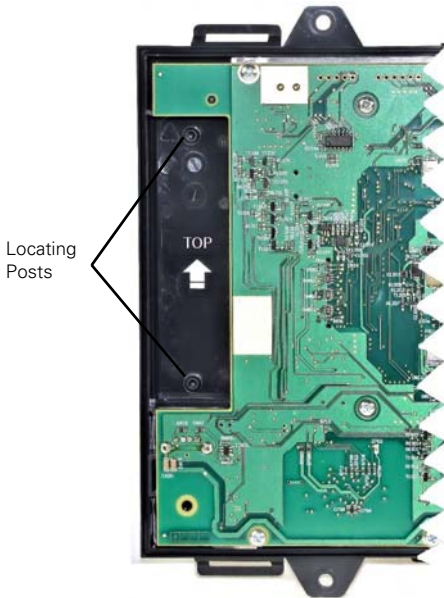

Fig. 14: FC1D2 - Rear View of Front Cover
- 1 Inside the front cover of the repeater, identify the exposed edge of the flexible plastic 'insert' labelled as 'TOP', which is just behind the PCB. Refer to Figure 14.